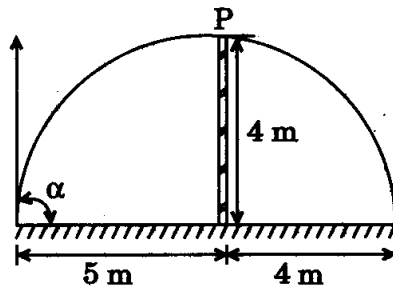

Figure 5
5. (a) Find the least initial velocity with which a projectile is to be projected so that it clears a wall 4 m high located at a distance of 5 m, and strikes the ground at a distance 4 m beyond the wall as shown in Figure 5. The point of projection is at the same level as the foot of the wall.